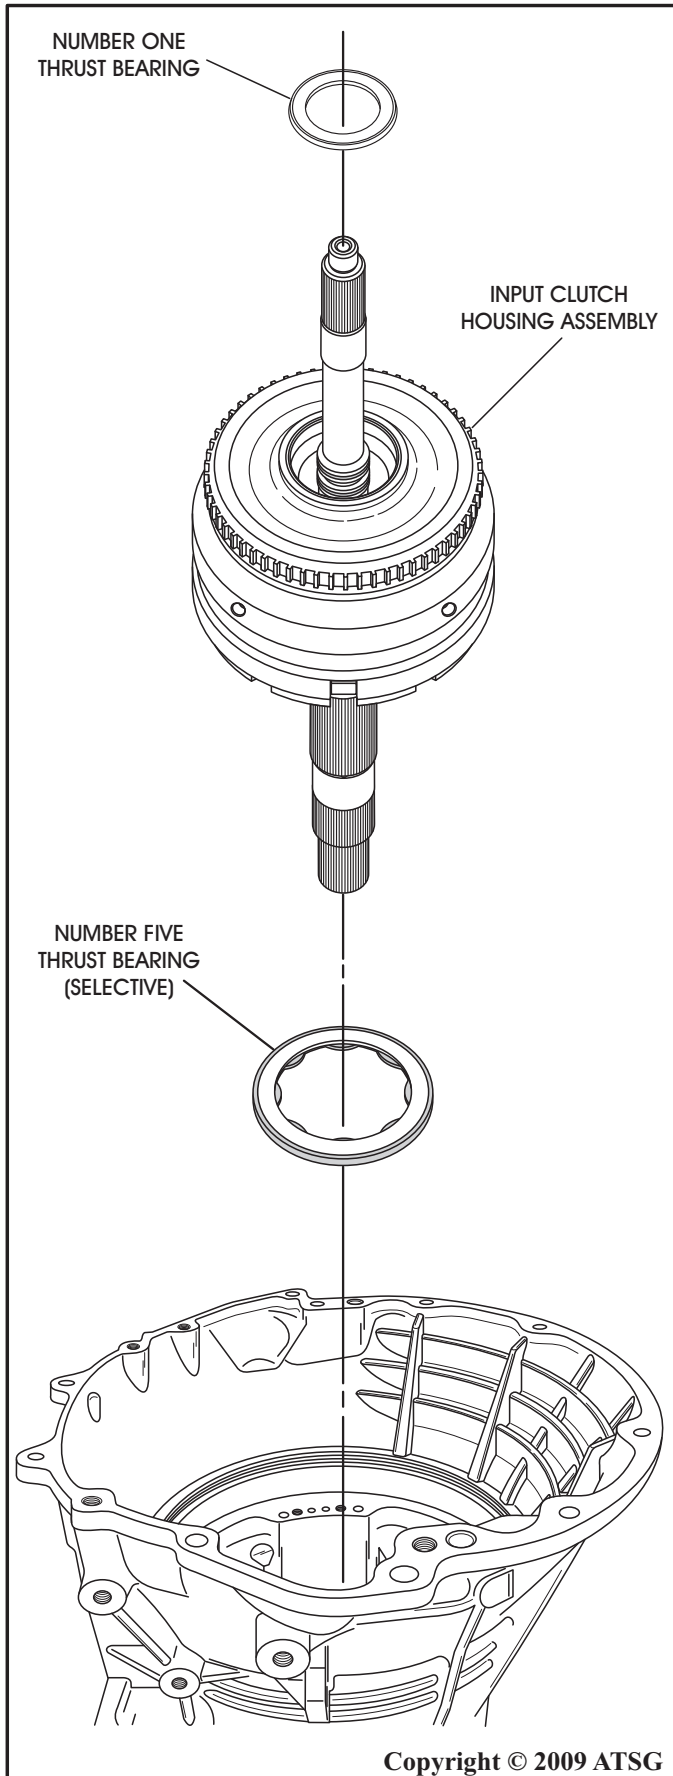

Figure 37
24. Remove the input clutch housing assembly by lifting straight up as shown in Figure 37.
25. Remove the number one thrust bearing from inside the input housing as shown in Figure 37.
26. Remove the number 5 selective thrust bearing from back side of the input housing, or from the 2-4 support in transmission (See Figure 37).